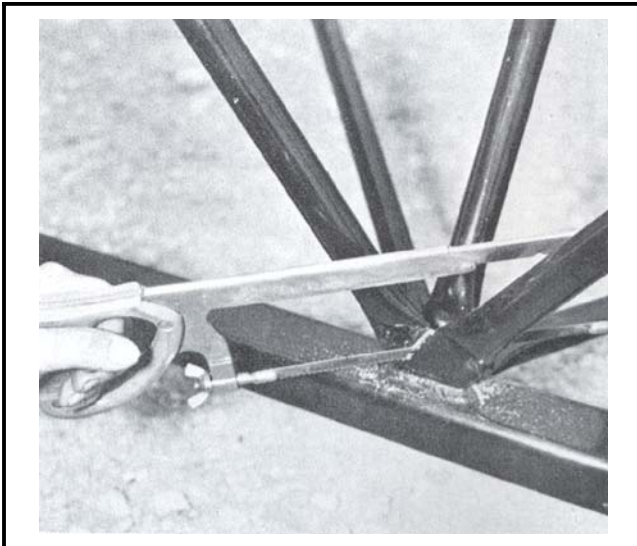

Figure 9
1. Remove the damaged lattice by cutting at each end. See Figure 9.